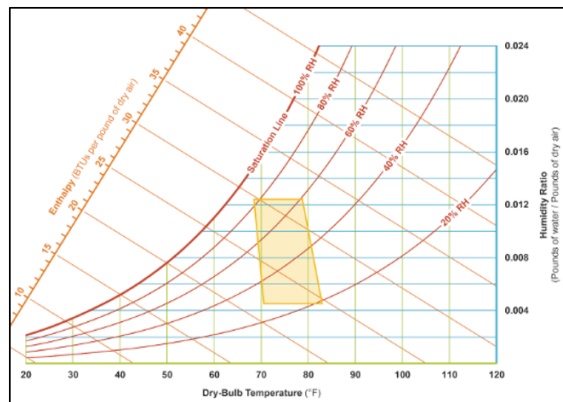

Figure 1 Psychrometric Chart
- First, we must understand the difference between absolute & relative humidity. For this we go to the psychrometric chart (Figure 1).